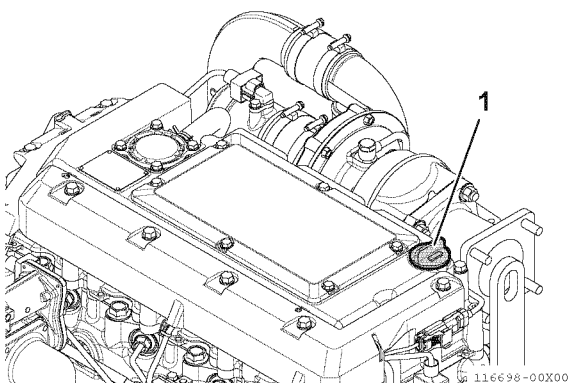

Fig.30-18
5. Remove the oil filler port cap (1, Fig.30-18) to vent the engine crankcase and allow the engine lubricating oil to drain more easily.